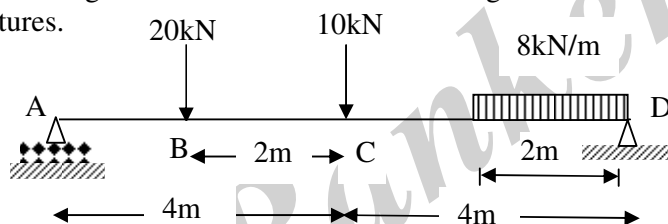

Figure 3
6. Draw the shearing force and bending moment diagrams for the beam in Figure 3 and identify salient features.